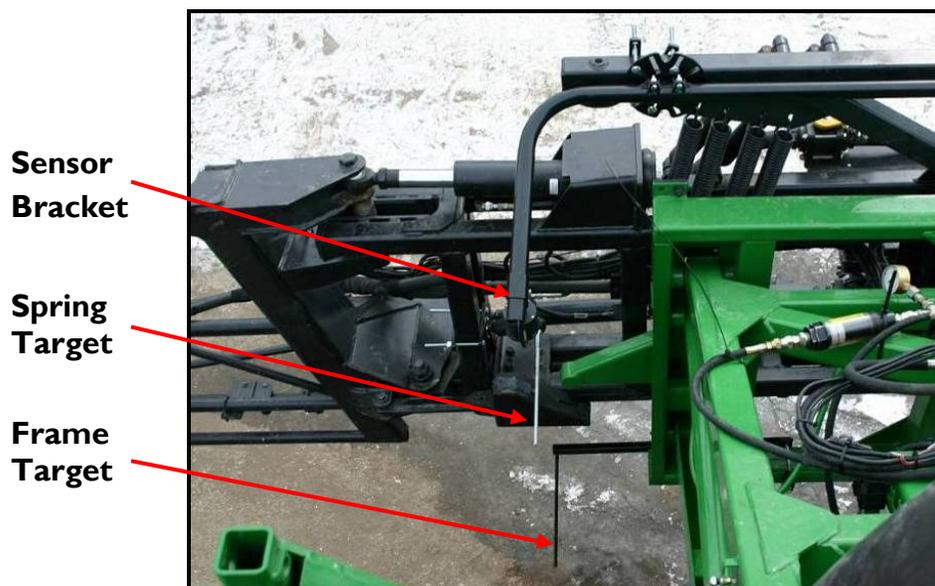

Figure 37: Typical John Deere Active Roll™ Sensor Mounting
1. Ensure the ultrasonic sensor is mounted as shown in **Figure 37** below. It must not be mounted directly behind the wheel.